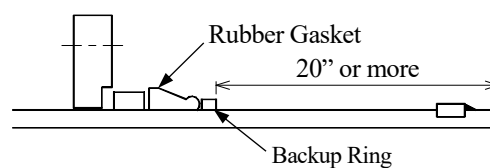
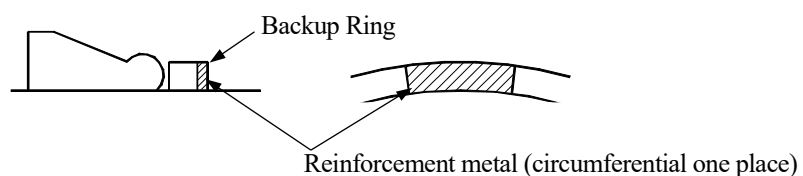

Figure-12 Rubber Gasket and Backup Ring
Figure-13 Reinforcement metal of Backup Ring
(2) Confirm the joint type indication mark “S” on the backside of the Rubber Gasket. Apply some lubricant to the inside surface of the Rubber Gasket, then place the Rubber Gasket onto the spigot, ensuring the gasket is not inside out, followed by the Backup Ring. (See Figure-12.) Ensure the reinforcement metal of the Backup Ring faces the spigot end. (See Figure-13.)